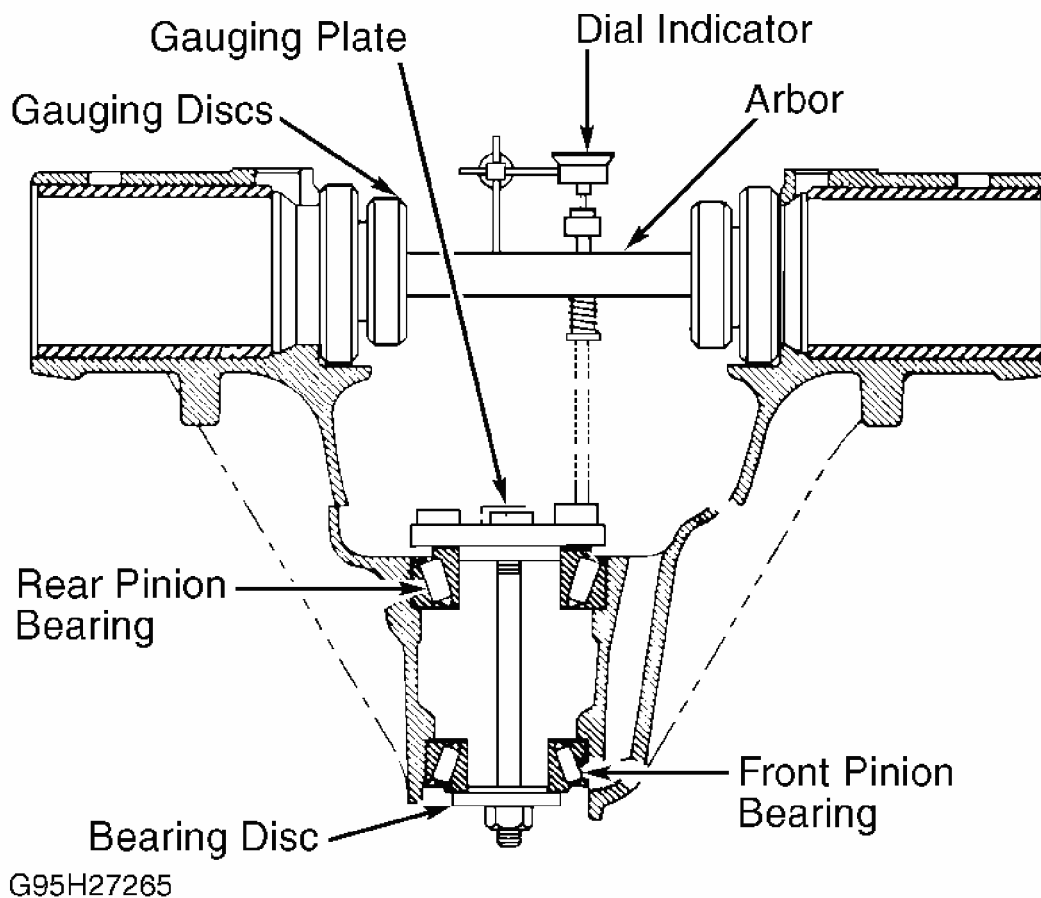

Fig. 5: Cross-Sectional View Of Pinion Setting Gauge Set
1. Drive pinion rear bearing shim thickness must be determined whenever a new axle housing, ring gear and pinion, or pinion bearings is installed. Shim pack thickness is determined by using Pinion Setting Gauge Set (J-21777). See **Fig. 5**.
2. Install pinion bearing races into housing (if previously removed). Install lubricated rear pinion bearing through rear of housing. Position Gauging Plate (J-23597-11 for 7 5/8", J-21777-29 for 8 1/2" and 8 5/8", or J-21777-85 for 9 1/2") to rear pinion bearing. Install stud bolt and washer through gauging plate and rear pinion bearing, pointing stud bolt toward front pinion bearing position. See **Fig. 5**.
3. Install lubricated front pinion bearing into race. Install Bearing Disc (J-21777-42) to outside of front pinion bearing. Install and tighten stud bolt hex nut until snug. Rotate gauge plate and bearings to ensure proper seating, while snugging hex nut. Hold stud bolt head stationary with a wrench. Using INCH-lb. torque wrench, tighten hex nut in small increments until 20 INCH lbs. (2.2 N.m) of torque is required to rotate gauge plate and bearings. See **Fig. 5**.